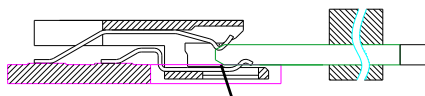

Fig. 9.2
**Step 2nd:** Withdraw the module by hand in horizon until the module bottom surface over the ramp (see Fig. 9.2).